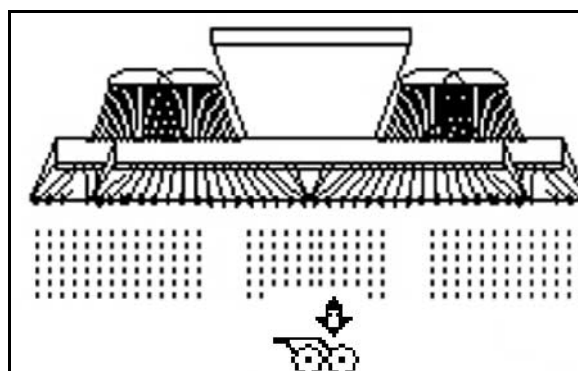

Fig. 55
1. Preselect coulter/harrow pressure (Fig. 55).